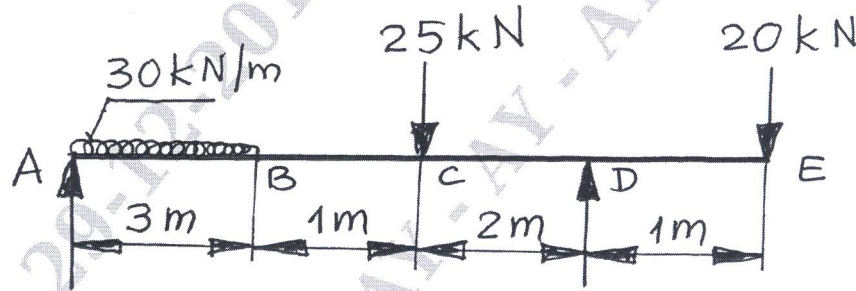

Fig.Q.5
5. Draw the shear force and bending moment diagrams for a beam loaded as shown in Fig.Q.5. Determine the location of point of contraflexure. Also find maximum bending moment and its location. (20 Marks)